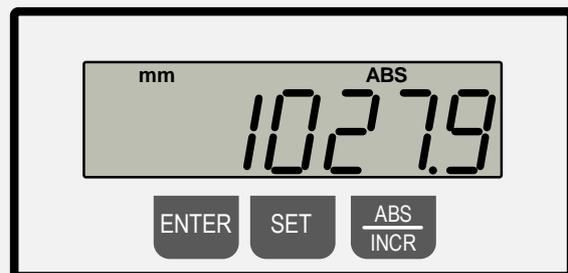

Figure 4: Display deviating from reference dimension
- Release both buttons and move the flip stop by hand until it has reached **the exact scale dimension of 1000.0 mm on the ruler**. In this example, a deviating value of 1027.9 mm is shown in the digital display (see ⇒ Figure 4).